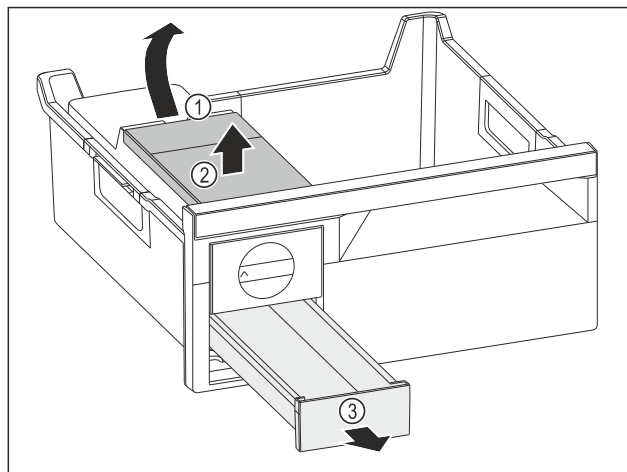

Fig. 90
- Removing the water tank: Lift the water tank at the recess Fig. 90 (1).
- Remove the water tank Fig. 90 (2) upwards.
- Remove the ice cube tray Fig. 90 (3) from the front.